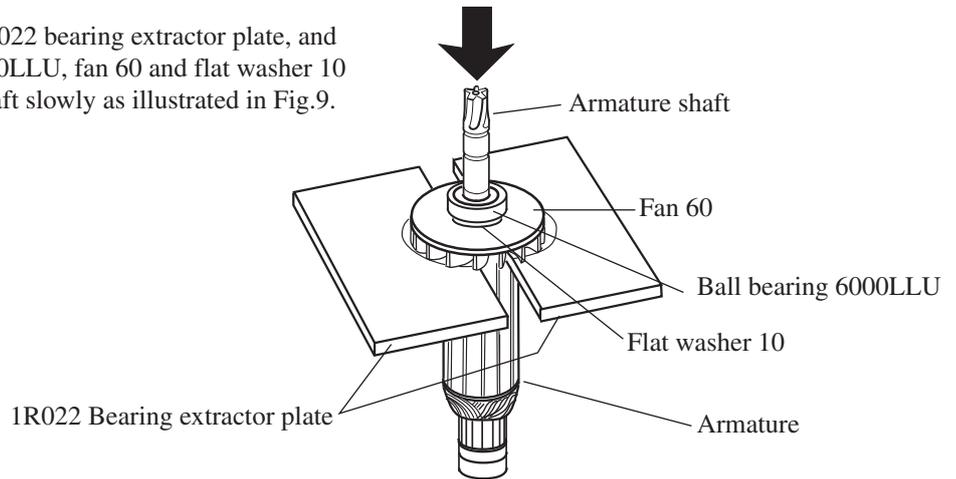

Fig.9
- 6) Hold fan 60 with No.1R022 bearing extractor plate, and remove ball bearing 6000LLU, fan 60 and flat washer 10 by pressing armature shaft slowly as illustrated in Fig.9.